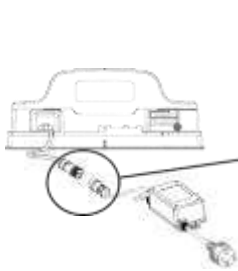
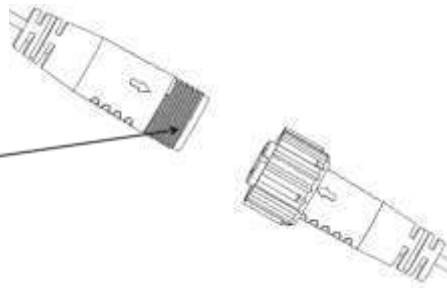

Fig.20A
Fig.20B
6. Connect the charger to the charging station. Align the arrow on the charger **station's power** cord connector with the arrow on the charger connector, insert the connector with each other and then tighten the knob (Fig.20A/Fig.20B).